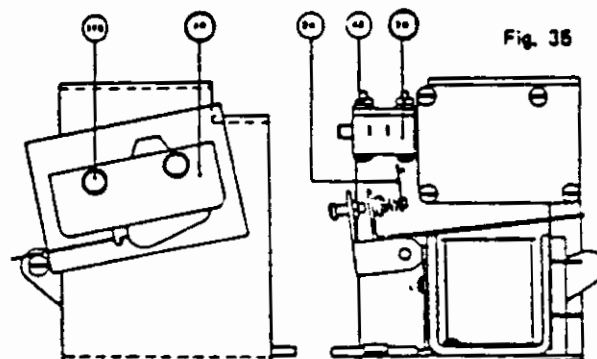

Fig. 35
- L. Undervoltage and Shunt Trip Limitswitches (Fig. 35).
1. *Limitswitch for trip indication.* To remove the limitswitch (28) for indicating tripping by undervoltage or shunt tripping, break connections and remove screws (178). When replacing limitswitch, follow adjustment instructions outlined in Chapter IV, Limitswitch On Voltage Release.